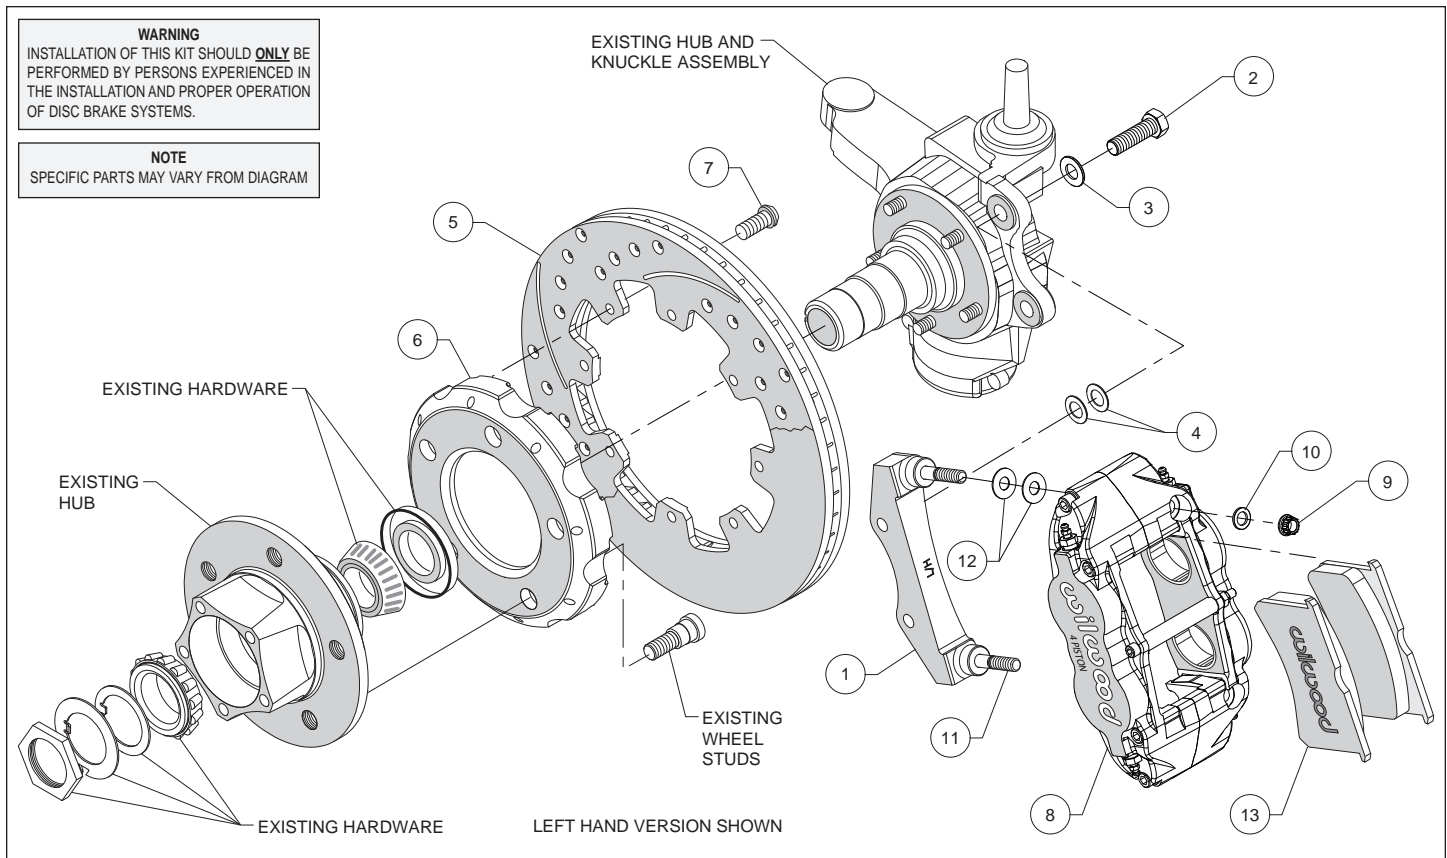

Figure 1. Typical Installation Configuration
Assembly Instructions (numbers in parenthesis refer to the parts list and Figure 1 on the preceding pages):
- The caliper mount bracket (1) should initially be installed with clean, dry threads on the mounting bolts. Orient the bracket as shown in Figure 1 and Photo 2 and install using bolts (2) and washers (3). Initially place two .032" thick shims (4) on each bolt between the bracket and upright, Figure 1. Temporarily tighten the mounting bolts. Brackets are labeled R/H and L/H, be sure to install the correct bracket on the applicable side, Photo 2.
- Orient the hat (6) and the OEM hub as shown in Figure 1 and Photo 3. **NOTE:** The hat must fit flush against the axle hub or excessive rotor run out may result. Press fit the wheel studs (we recommend using new wheel studs) thru the holes in the hat and into the existing hub. **NOTE:** We recommend this procedure be performed by a qualified machinist.
- Orient the rotor (5) and the hat/hub assembly as shown in Figure 1 and Photo 4. Attach rotor to hat using bolts (7). Using an alternating sequence, apply red *Loctite*[®] 271 to the threads, and torque to 25 ft-lbs.
- Pack the small outer OEM bearing cone (we recommend using new bearings) with high temperature disc brake bearing grease and install into hub, as shown in Figure 1.. Slide the hat/rotor/hub assembly onto the spindle. Secure using OEM spindle washer, spindle nut, and nut lock, Photo 6. Adjust bearings per OEM specifications. Install a new cotter pin (not included).
- Lubricate the caliper mounting studs (11) with lightweight oil. Initially place two .035" thick shims (12) on each stud as shown in Figure 1 and Photo 7. Mount the caliper (8) onto the bracket (1) using lock nuts (9) and washers (10), Figure 1 and Photo 8. Temporarily tighten the lock nuts and view the rotor through the top opening of the caliper. The rotor should be centered in the caliper, Photo 9. If not, adjust by adding or subtracting shims (4) between the bracket and the upright. Always use the same